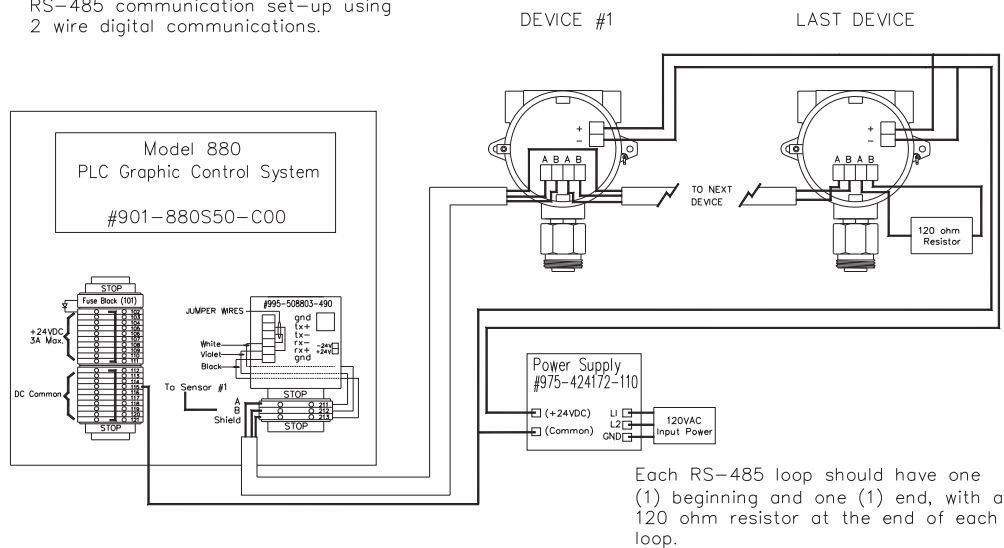

Figure 37 Recommended RS-485 communications set-up
Figure 37 shows a typical RS-485 communication setup using 2-wire digital communication. Each RS-485 loop should have (1) beginning and (1) end, with a 120-ohm resistor at the end of each loop.